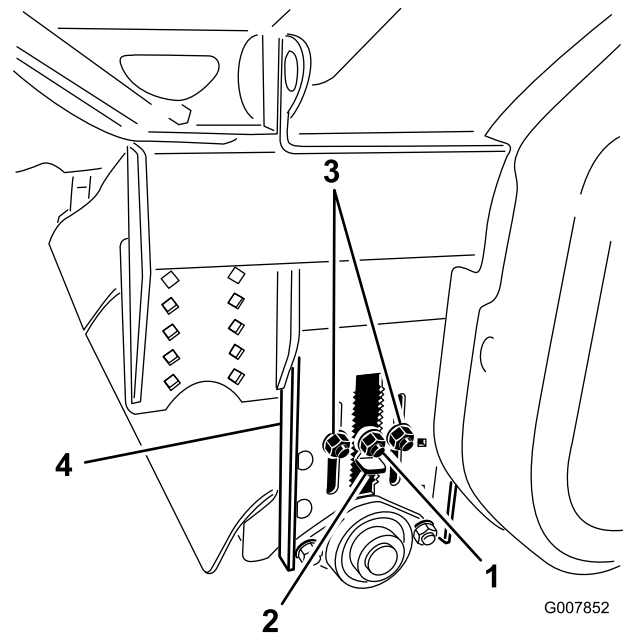

Figure 29
2. Loosen the locknut on height adjustment key (Figure 29) so it can be pulled out approximately 1/2 inch.
3. Loosen the roller height adjustment locknuts (Figure 29).
4. Pull out the height adjustor key and move the rear roller up or down by sliding the roller height adjusting plate to the desired height (Figure 29).